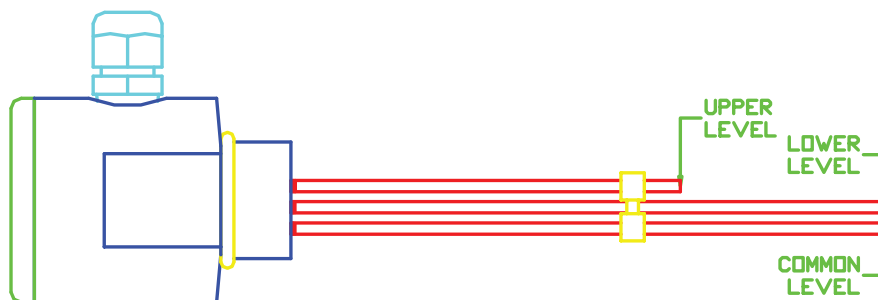

FIGURE 1
- Cut two (2) probes to the same length, these will be the common and lower level probes. See figure 1.
- Cut one (1) probe to the desired length for the upper level of the tank. See figure 1.